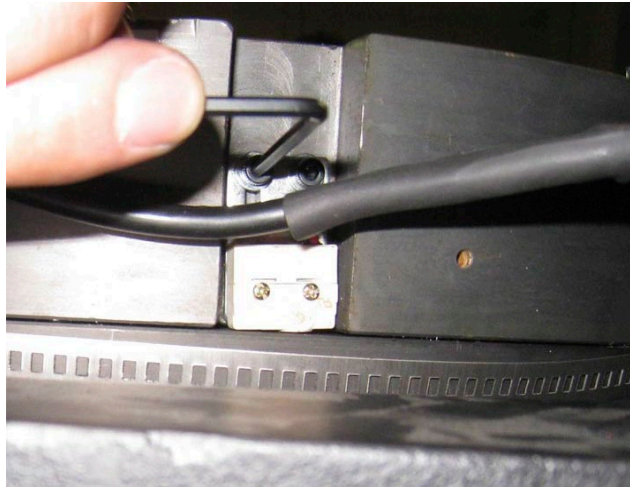

Figure 30 Reinstall Brake switch and bracket
4. Install the switch and bracket to the brake body but do not tighten the bolts. See Figure 30.